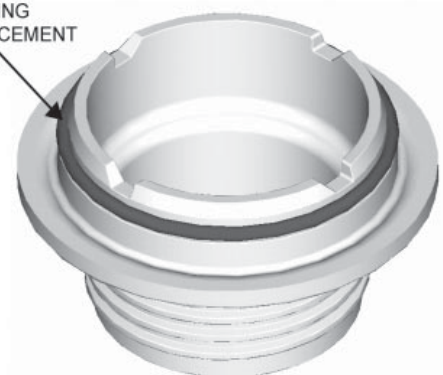

FIG. 3
- The valve adapter o-ring sits on the first step on the adapter. See Fig. 3.